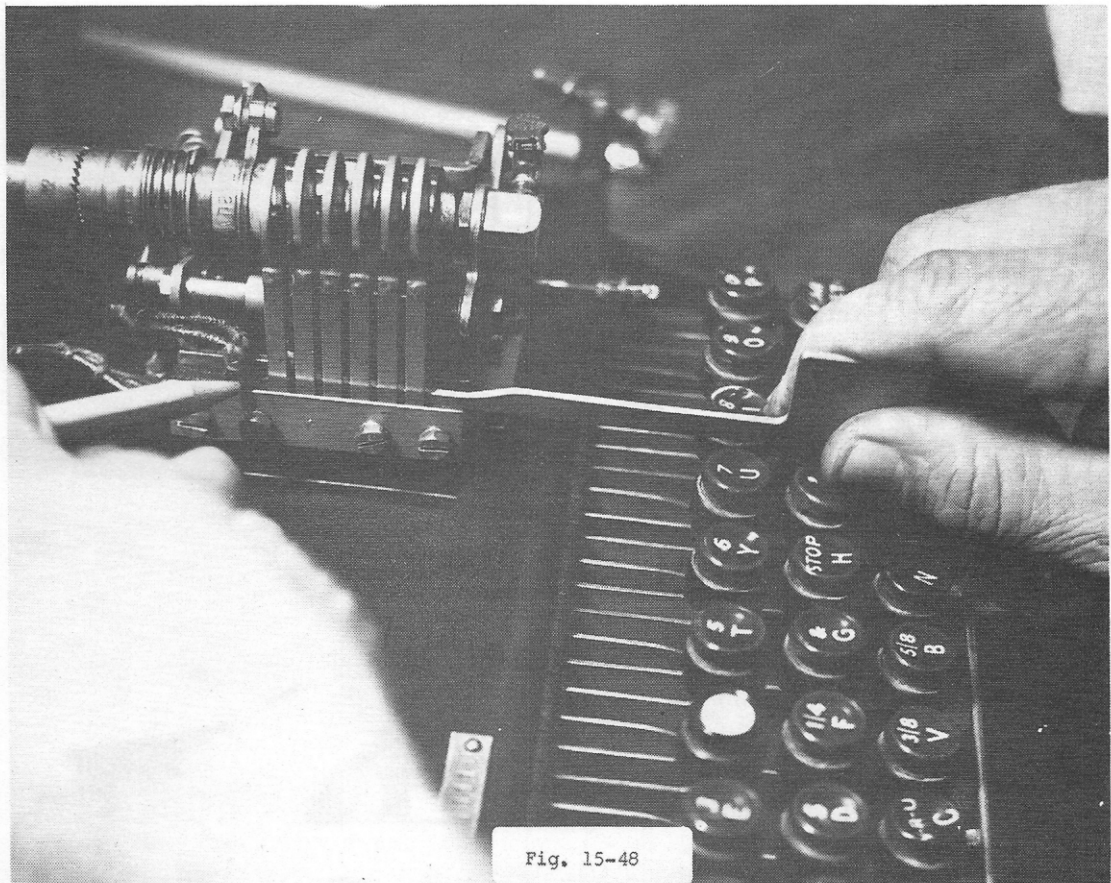

Fig. 15-48
6. If the gap is too narrow, insert the tool in between the rows of contacts and bend outward the contact in question. Fig. 15-48 shows this.